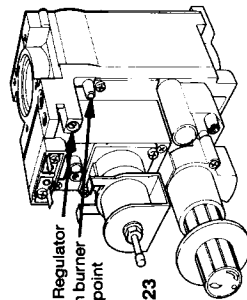

Fig. 23
6.7.4 Locate the main burner pressure test point (Fig. 23) and slacken the screw half a turn in an anti clockwise direction. Attach a suitable pressure gauge. Turn on the main electricity supply, turn on the boiler and adjust the thermostat to the maximum setting.
6.10.1 With the burner on high flame, turn the gas knob in a clockwise direction and confirm that a definite 'click' is heard. Relight pilot (6.5.4), Fig. 23